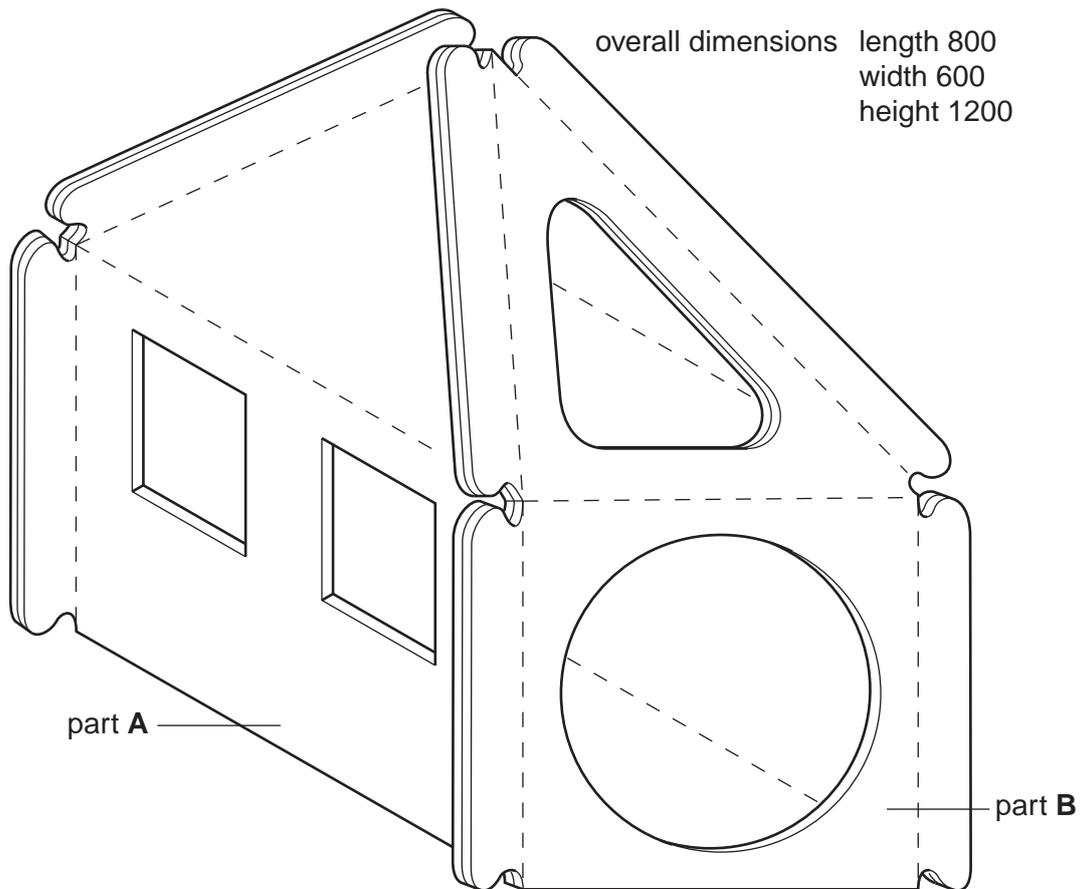

Fig. 3
- 3 Fig. 3 shows a children's playhouse which is to be made in a school workshop. The playhouse will be made from four separate pieces of corrugated cardboard.